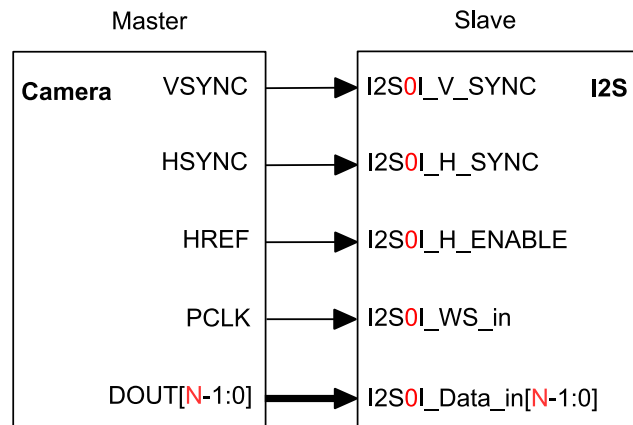

Figure 8-15. Camera Slave Receiving Mode
ESP32-S2 I2S can be configured as camera slave receiving mode for high-speed data transfer with external camera modules. In this mode, I2S module works as slave receiver with a 16-channel data signal bus `I2S0I_Data_in[15:0]`, and three more signals: `I2S0I_H_SYNC`, `I2S0I_V_SYNC`, and `I2S0I_H_ENABLE`, see Figure 8-15.
2. Configure signal pins according to Table 40 and Figure 8-15.